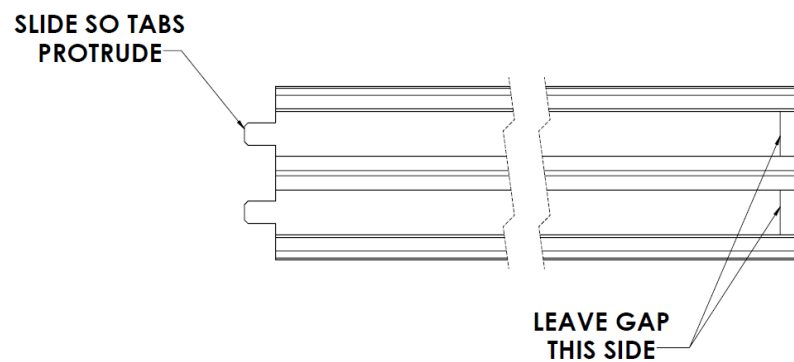

Figure 32: **Slide Metal Strips 1/2" Out of Plastic Insulator**
d. Slide the metal strips inside the TransStrip back, so the male terminal tabs protrude from the plastic insulator (Figure 32).